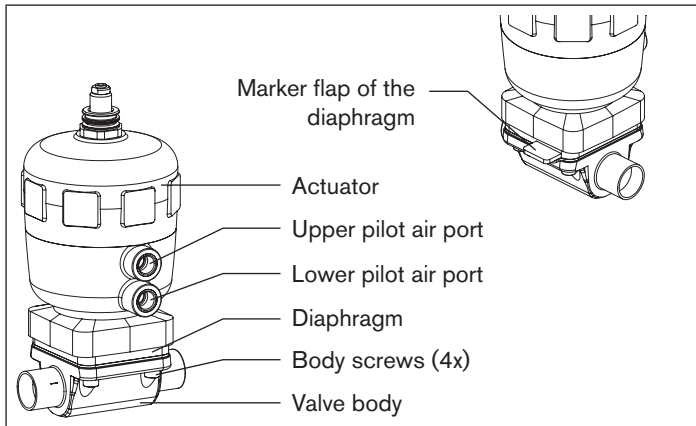

Fig. 18: Repairs
The marker flap of the diaphragm must be perpendicular to the direction of flow (see "Fig. 18")!
The marker flap of the diaphragm must be perpendicular to the direction of flow (see “Fig. 18”).
- Pressurize upper pilot air **port** of the actuator with compressed air (5 bar) (see “Fig. 18”).